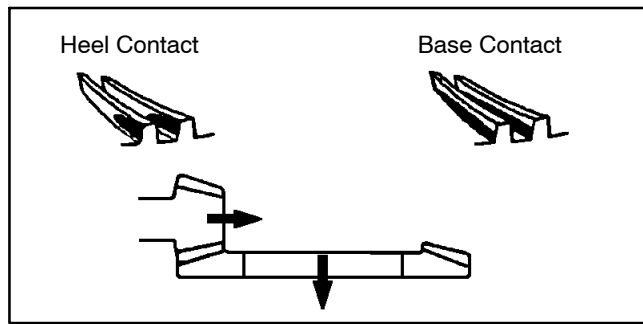

Figure 47
Study the different contact patterns (Figs. 47 and 48) and correct gear engagement as necessary.
1. If contact is toward the heel or base of the gear (Fig. 47):